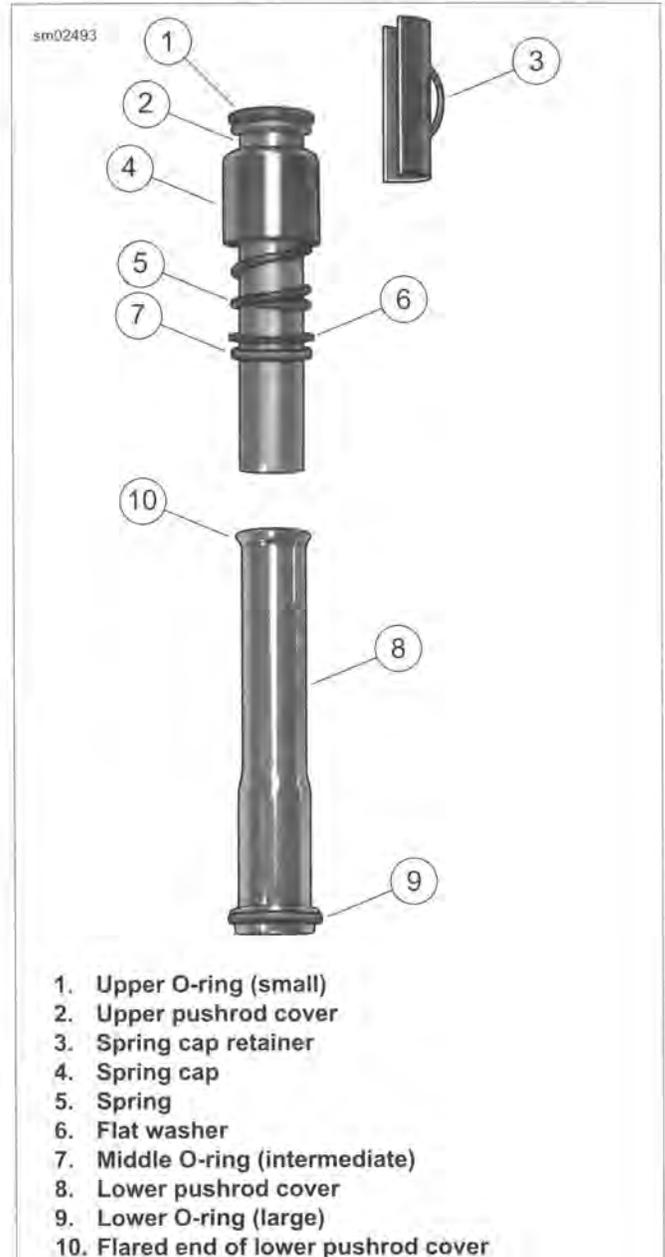

Figure 3-37. Assembled Pushrod Cover
1. See Figure 3-37. Apply a very thin film of clean engine oil to **new** O-rings (1, 7 and 9) before installation.
2. Install small O-ring (1) on seat at the top of the upper pushrod cover (2).
3. Slide the spring cap (4), spring (5), flat washer (6) and intermediate size O-ring (7) onto the body of the upper pushrod cover. Move parts up body until spring cap contacts upper O-ring seat.
4. Fit the straight end of the upper pushrod cover into the flared end of the lower pushrod cover (8).
5. Install large O-ring (9) on seat at bottom of lower pushrod cover.